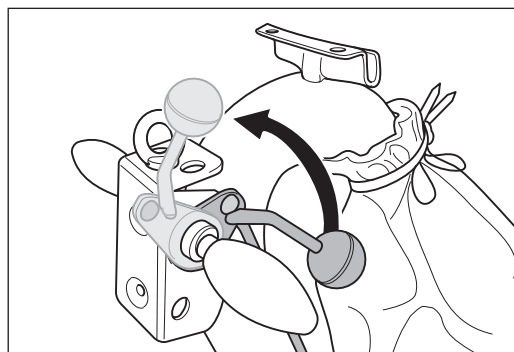

Fig. 45 Lift the sanding drum off the floor by turning the lowering lever at the handle upwards.
- 1** Lift the sanding drum off the floor by turning the lowering lever at the handle upwards (Fig. 45).
- 1 Lift the sanding drum off the floor by turning the lowering lever at the handle upwards (Fig. 45).